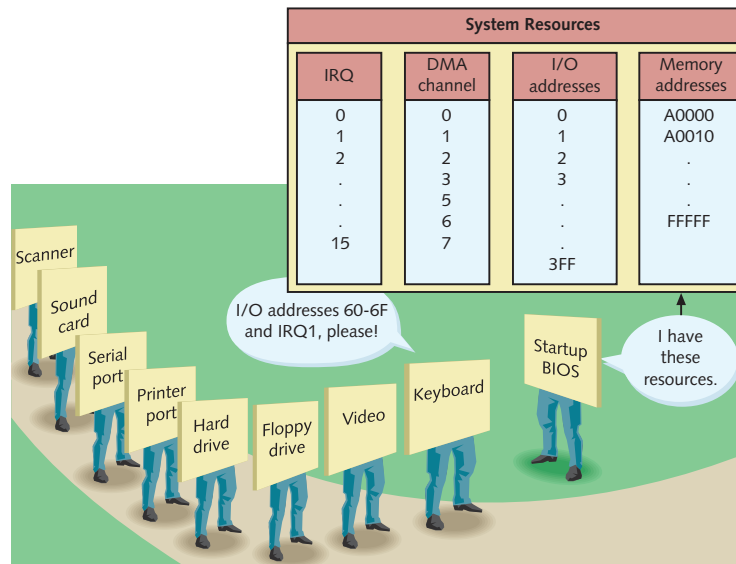

Figure 2-17 Boot Step 1: ROM BIOS startup program surveys hardware resources and needs and assigns system resources to satisfy those needs
- *Step 1: Startup BIOS runs the power-on self test (POST) and assigns system resources.* The ROM BIOS startup program surveys hardware resources and needs, and assigns system resources to meet those needs (see Figure 2-17). The ROM BIOS startup program begins the startup process by reading configuration information stored in DIP switches, jumpers, and the CMOS chip, and then comparing that information to the hardware—the CPU, video card, disk drive, hard drive, and so on. Some hardware devices have BIOSs of their own that request resources from startup BIOS, which attempts to assign these system resources as needed.